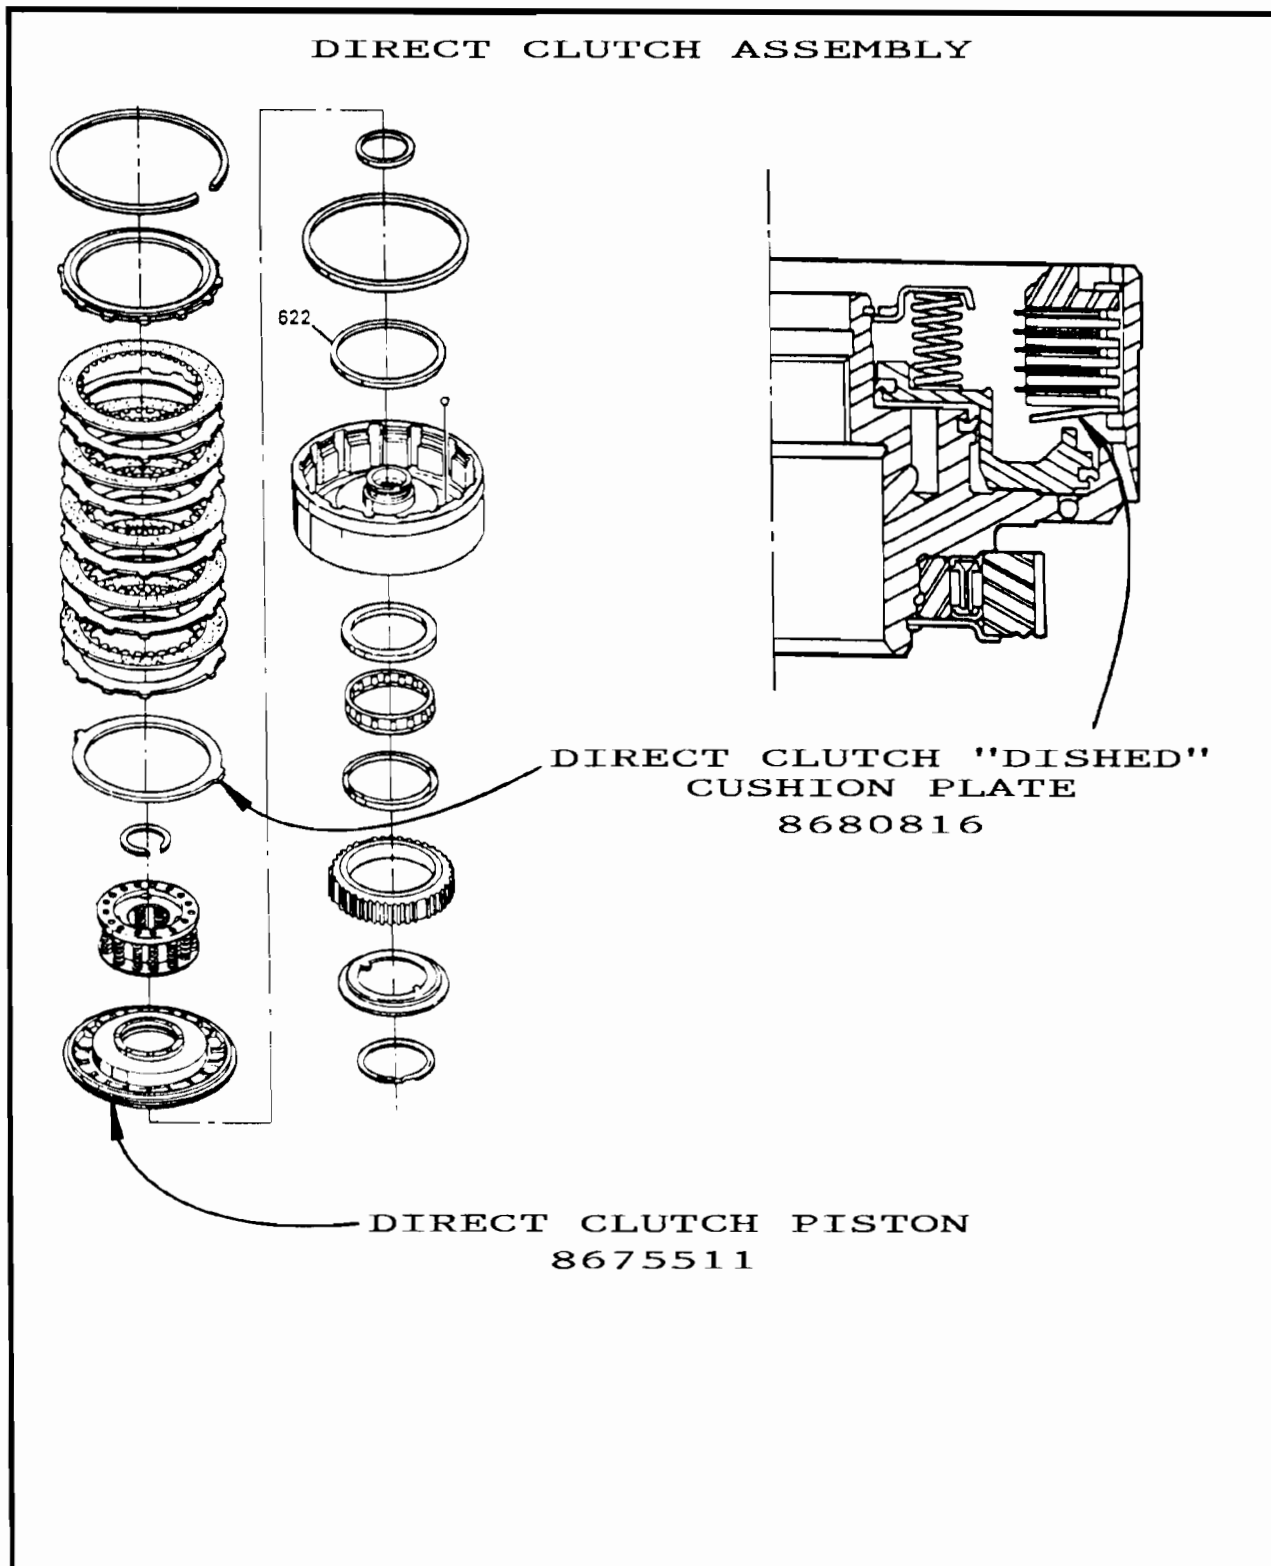

Figure 22
If the Direct Clutch Piston is broken replace it with a new one, OEM part number 8675511 (See Figure 22).
**NOTE:** The Direct Clutch "Dished" Cushion Plate goes into the direct drum, in the direction shown in Figure 22, so that the inside diameter is closest to the Direct Clutch Piston.